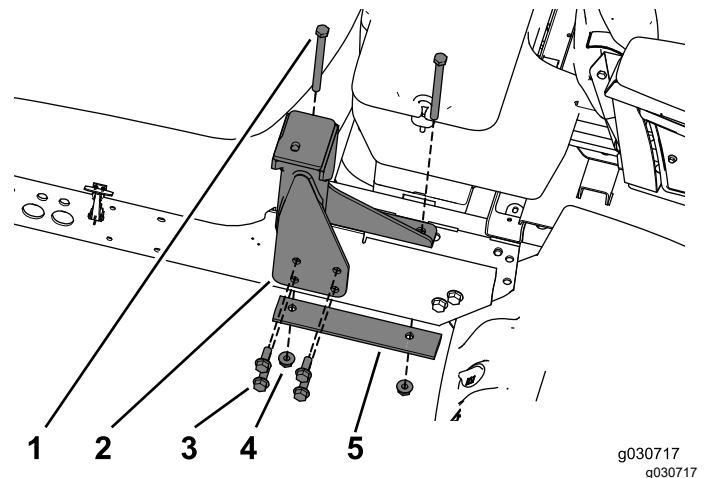

Figure 21
1. Use the new hardware to secure the right rear mount to the frame (Figure 21).